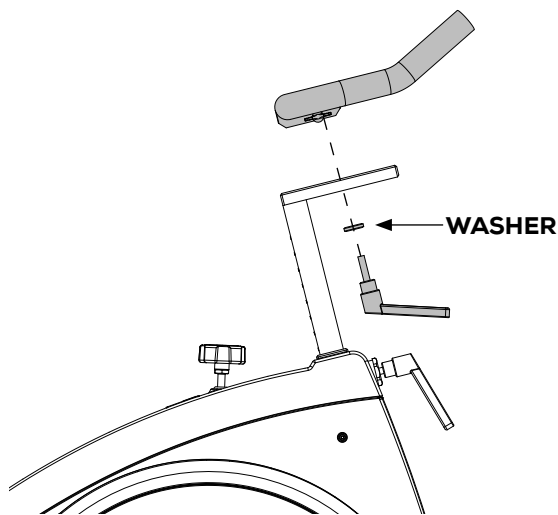

Figure 5
- 2) Screw an adjustment handle (size 32mm) clockwise into the socket from underneath the post, see figure 5. Fix the handlebar completely to the front post by tightening the adjustment screw on the right side of the handlebar.